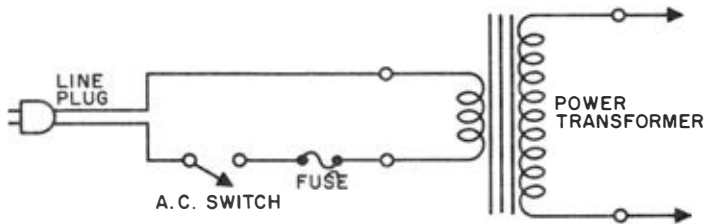

Fig. 904. *Typical 117-volt ac path to the power transformer in an audio component.*
4. *The ac switch of the component in question*. It may be defective. Fig. 904 shows the typical path for alternating